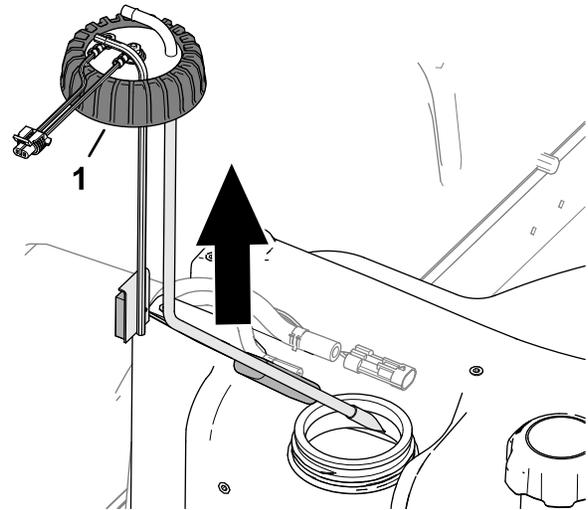

Figure 89
5. Loosen the fuel-sender cap (Figure 89).